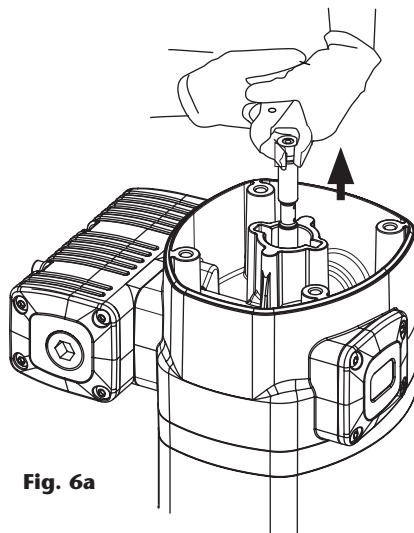
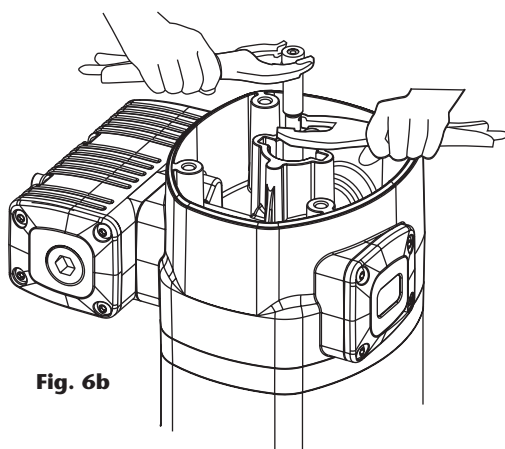

Fig. 6a
Fig. 6b
1. Unscrew the bolts (A) and remove the cap (B).
2. Unscrew the sensor sleeve (C).
3. With a manual clamp on the nut (D), pull the rod (O) outwards until its central recess appears (Fig. 6a). Then, with another manual clamp, grab the rod (O) on said recess to prevent sealing surface to be damaged, and unscrew the nut (D) (Fig. 6b).
4. Remove o-ring (E) and ring (F), and replace them with new ones later.
5. Unscrew the bolts (R). Pull the motor body (J) outwards to free it along with bridle (L).
6. Take away the gasket (G) and replace its seals (H) and (I).
7. Unscrew the bolts (M) and split the motor (J) from the bridle (L). Take away the washer (K) and replace the seal (H).
8. Take away the cylinder (50) while carefully holding the air piston (Q). Replace the piston seal (P).
9. Re-assembly in reverse order, applying thread locker in screws (M), nut (D) and sensor sleeve (C).